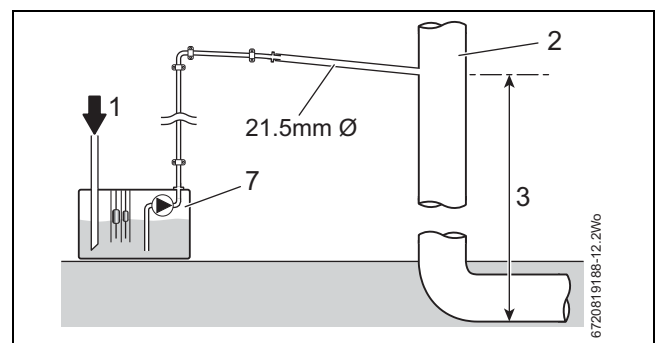

Fig. 13 Condensate pump disposal
**Continued - Key to condensate illustrations, figures 13,14, 15 & 16**